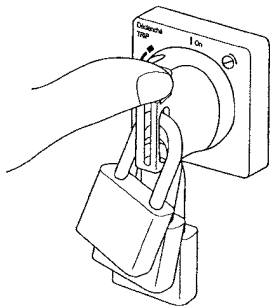

fig. 75
2. Ensure that the power supply cables (motor cables) are not live, putting the line disconnecting switch in the "O" or "OFF" position, arranging, if available, for its closure with a padlock, or attaching a sign forbidding manoeuvres (fig. 75).